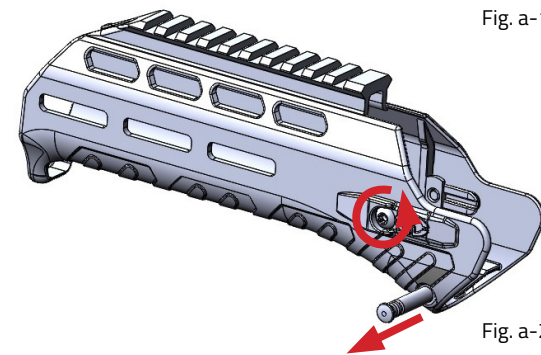

Fig. a-2
3. On the MDR handguard, use the T25 side of the multi-tool, loosen by two turns **DO NOT REMOVE** the two T25 torqueset handguard retention screws on the right and left side of the MDR Handguard. (Fig. a-2)